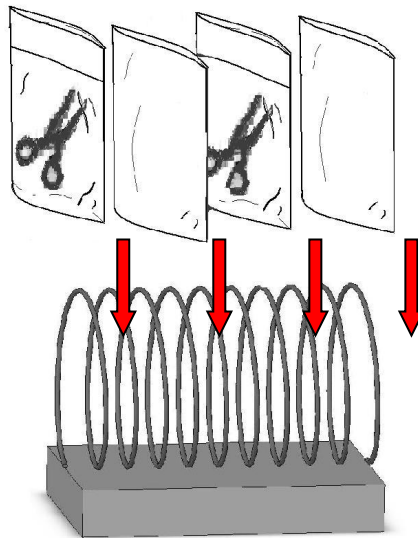
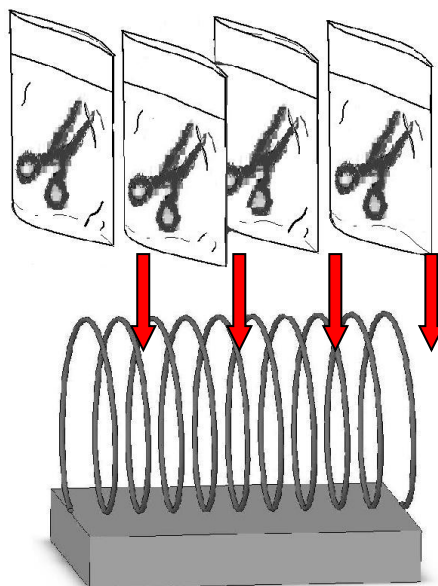

Figure 27
Figure 28
**Warning:** We suggest using Spring Holder for items with sterilizing pouches to assure sterilization result. Follow Figure 27 or Figure 28 to place each pouch separately. Spring holder is available as an optional accessory.